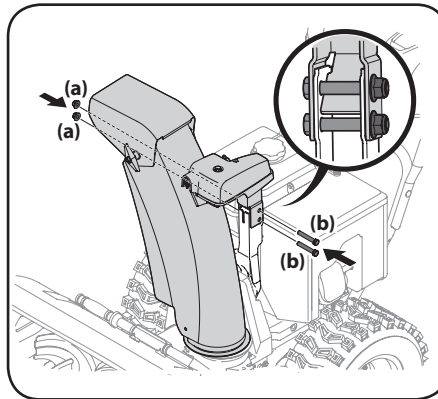

Figure 2-36
3. Secure chute control assembly to chute support bracket with lock nuts (a) and hex screws (b) removed in Step 1. See Figure 2-36.